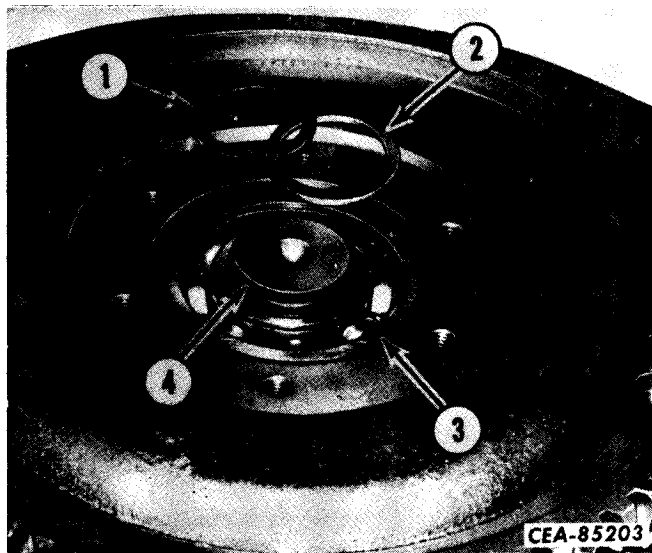

Figure 3-6
Remove the snap ring (1, Fig. 3-6) and bearing spacer (2) that retain the output shaft bearing (3) on the output shaft (4).